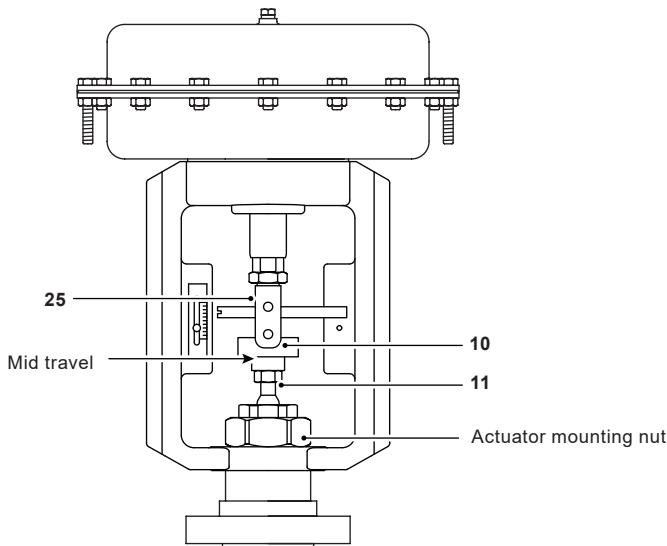

Fig. 7
- Loosen and remove the screws (26) and remove the valve adaptor (11).
- Loosen and remove the actuator mounting nut (see Figure 7) and lift the actuator off the valve.